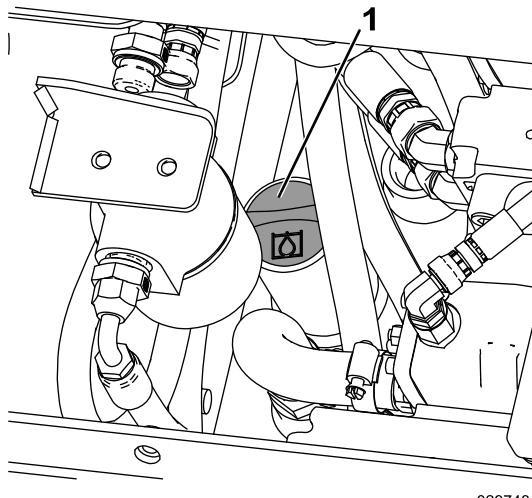

Figure 27
- Clean the area around the filler neck of the hydraulic tank (Figure 27).